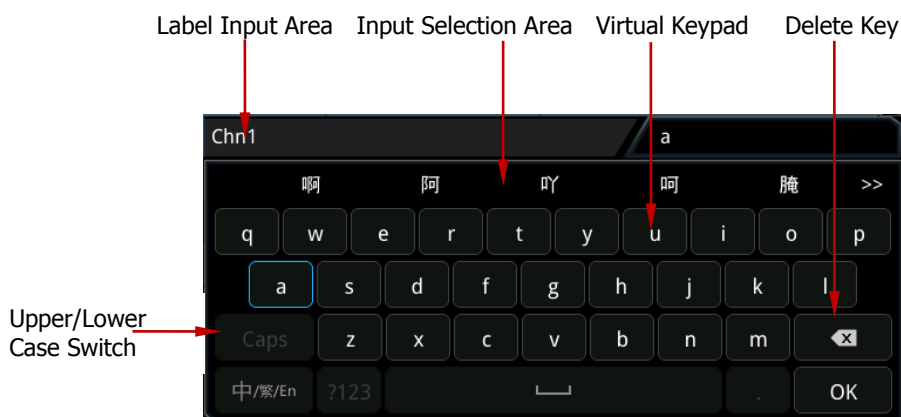

Figure 2-3 Label Editing Interface
- Click **Label** and the label editing interface is automatically displayed, as shown in Figure 2-3. You can input the label manually. For the label input method, refer to "**To Create a Folder**".